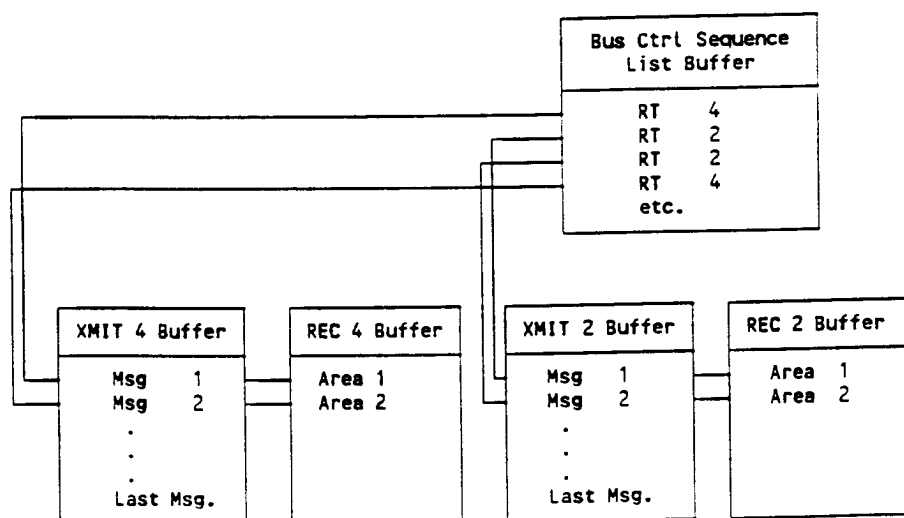

Figure 455-3: Bus Controller Simulator Example
Figure 455-3 is a simplified memory map to aid in understanding how the various buffers are set up and interact.
In the Bus Controller Simulator mode, the typical sequence of events that will take place when a T command is received by the 73A-455 Module is as follows (refer to Figure 455-3):
- 2) After the transaction for buffer 4 is completed, the 73A-455 Module takes the next item in the Bus Controller Sequence List. In the example in Figure 455-3, this would be buffer 2. The sequence of events described in Step 1 is repeated, and message 1 in transmit buffer 2's transmit buffer is transmitted.
NOTE: Although Figure 455-3 refers to "Area 1" and "Area 2" for the receive buffers, you only need to allocate a total size for each receive buffer. The card will